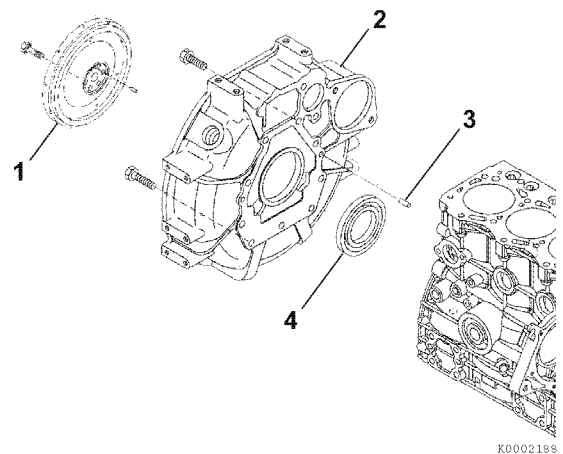

Figure 6-56
1. Remove the flywheel (**Figure 6-56, (1)**) from the crankshaft.
2. Remove the bolts (**Figure 6-56, (2)**) from the flywheel housing assembly. Remove the flywheel housing from the engine.